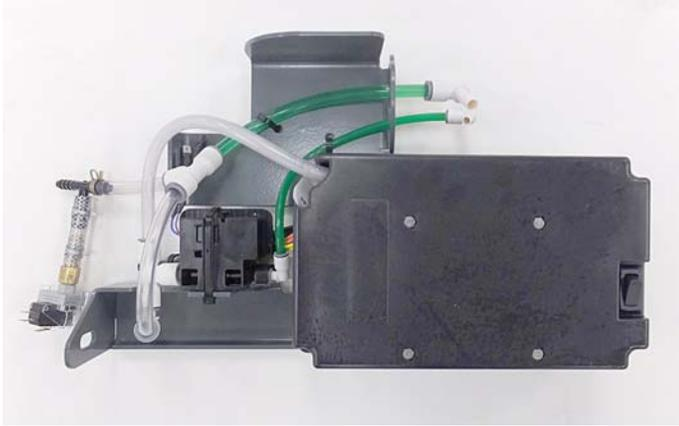

Fig. 28
- Before mounting the ec-H2O module assembly to machine, connect the solution hoses and ec-H2O harness wires to module as described in following steps (Figure 28).